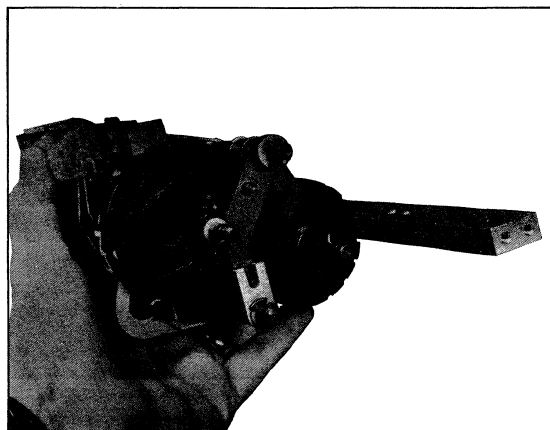

Figure 22. Preparation For Side Plate Installation.
- c. Engage pin on reset lever group with slot in reset arm. See Figure 22.
- Hold meter register assembly as shown in Figure 22 and place a rubber band around the assembly to hold it together. Be sure the pin in the reset lever group remains engaged in the slot in the reset arm.